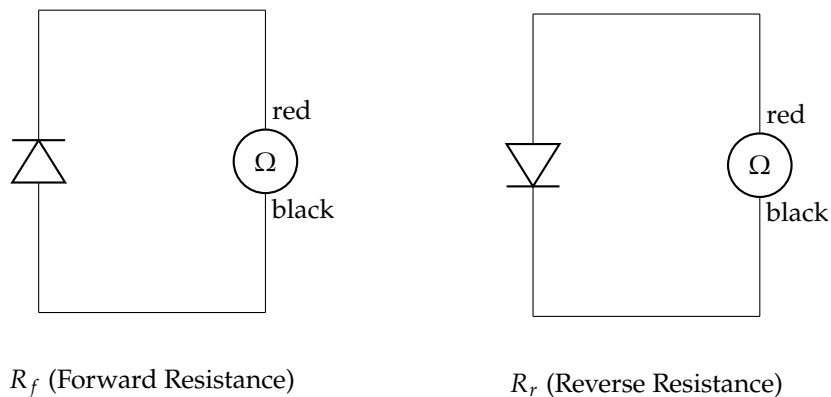

Figure 1.1: Measuring forward and reverse resistances of a diode using the analog multi-meter
**Task 4.** Identify the diode pins and fix the diode on the protoboard. Use the analog multi-meter as an ohmmeter (refer Figure 1.1), and measure and record  $R_f$  and  $R_r$ . Is the diode working properly?
**Task 5.** Use the digital multi-meter in the *Diode Mode* to check the provided diode. Draw the setup under each configuration (forward biased and reverse biased, similar to that of Figure 1.1) and record the displayed voltage drop.